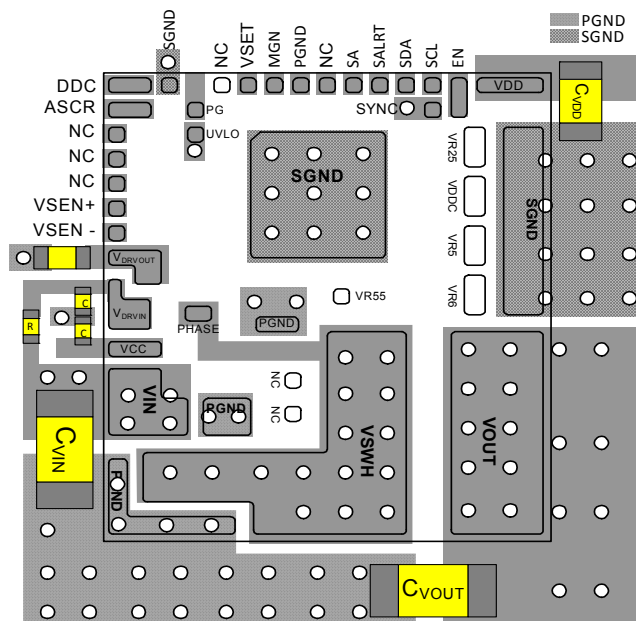

FIGURE 29. RECOMMENDED LAYOUT - TOP PCB LAYER
- For $V_{DD} > 6V$, the recommended PCB layout is shown in Figure 29. Leave V25, VDDC, VR5, and VR6 as “No Connect”.